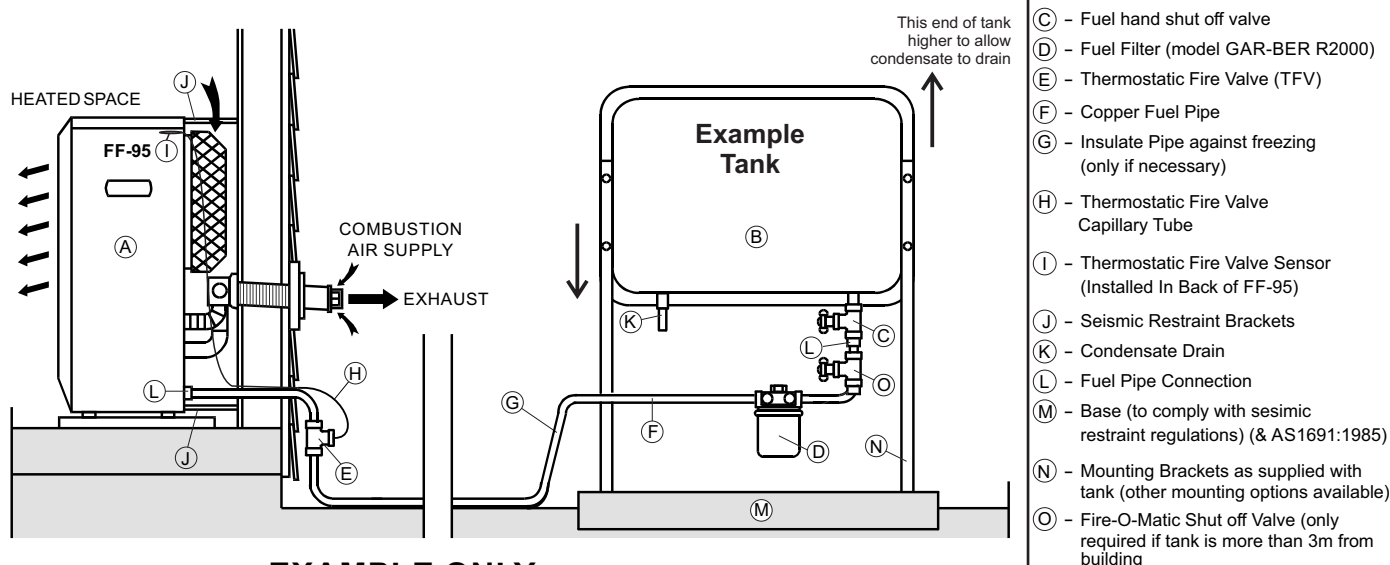
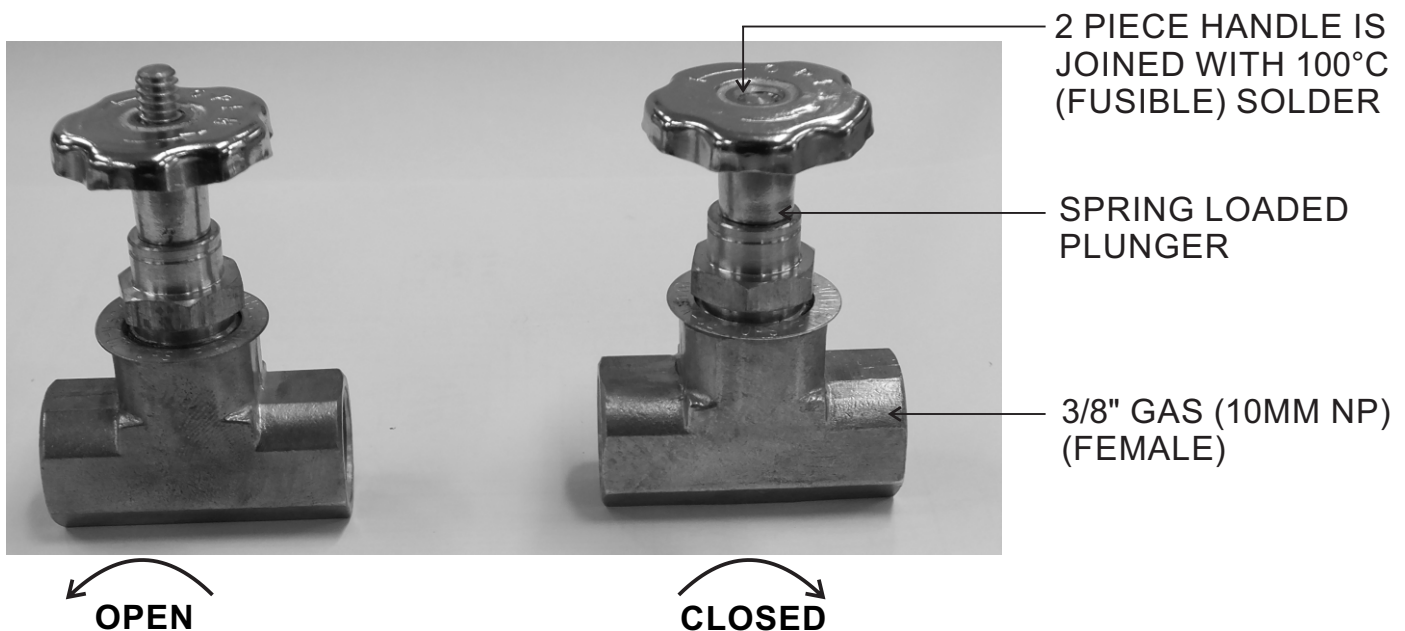

FIG. 1
FIG. 2
- 10) Every tank requires a shut-off valve and a drain condensate valve, as shown on Fig.1 Page 31.
- 16) An additional TFV must be fitted, if the tank is located more than 3m from the Building or the Heater. Where required, Avon can supply a secondary Auto Shut Off Valve to be fitted to the fuel tank. (See O in Fig 1 below and Fig 2 Page 32).